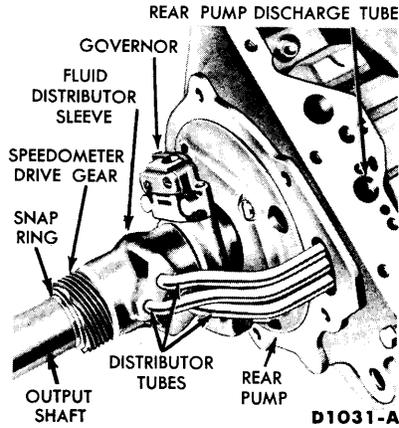

FIG. 3—Output Shaft, Governor and Rear Pump
3. Remove the speedometer drive gear snap ring (Fig. 3) from the output shaft without moving the speedometer drive gear. Place one hand under the output shaft below the speedometer drive gear. Then remove the speedometer drive gear. If the drive gear drive ball does not fall out, remove the ball from the seat in the output shaft.